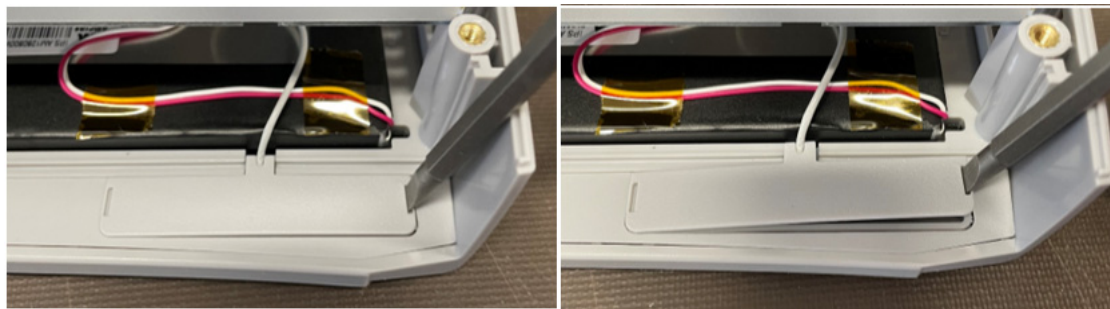

Figure 3-12. Releasing the Wi-Fi antennas
- Carefully tilt the Main PCB/SPA PCB assembly to remove the two Wi-Fi antennas. Release the Wi-Fi Antennas by carefully prying the end slots using a straight screw driver. See Figure 3-12.